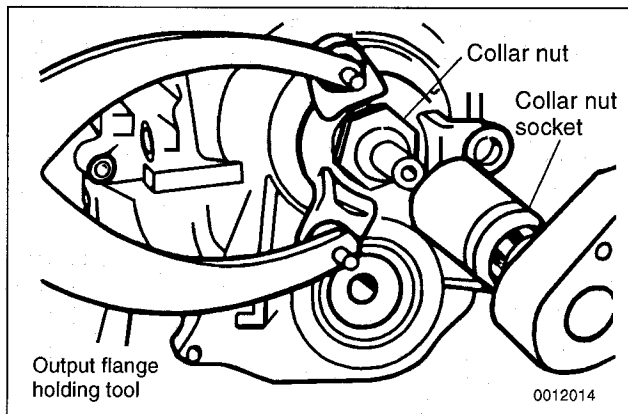

Fig. 5. Use holding tool when loosening output shaft collar nut.
5. Hold flange steady and remove collar lock nut (use 30mm thin-walled deep socket.) See Fig. 5.